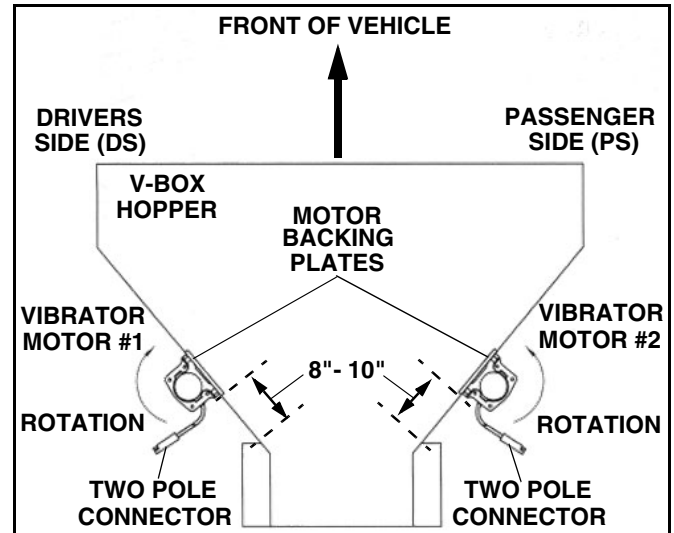

Figure 15
1. Position one vibrator motor on the driver's side of the spreader in the center of the angled side portion approximately 8 to 10 inches from the top of the spreader main support frame (See Figure 15).